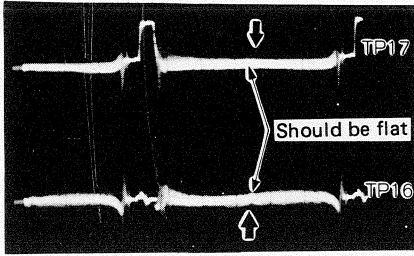

Fig. 30
5. Adjust RV301 so that the waveform becomes max. in the direction of the arrow and obtain a waveform facilitating shading correction. (Refer to Fig. 30)